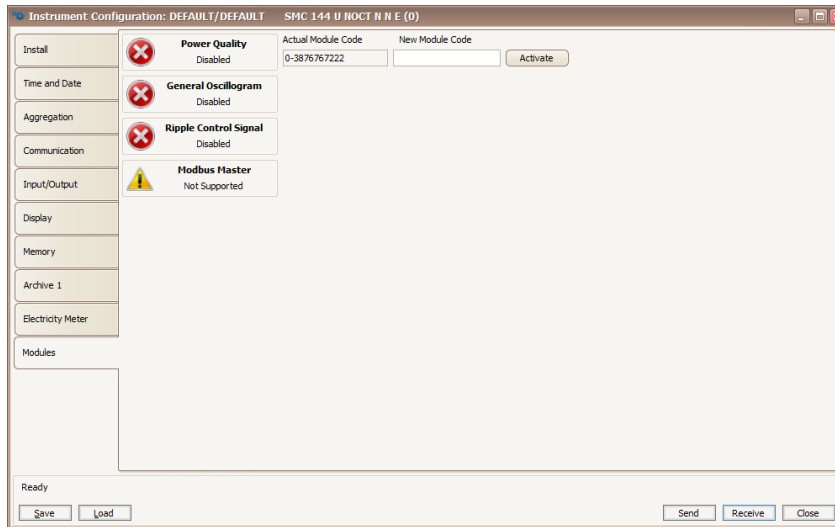

Figure 19: ENVIS.Daq - activation and deactivation of the supported special firmware options.
**Firmware Modules (fig. 19)** This tab allows the user to activate or deactivate optional firmware modules by providing a valid activation code. State of each supported module is indicated.